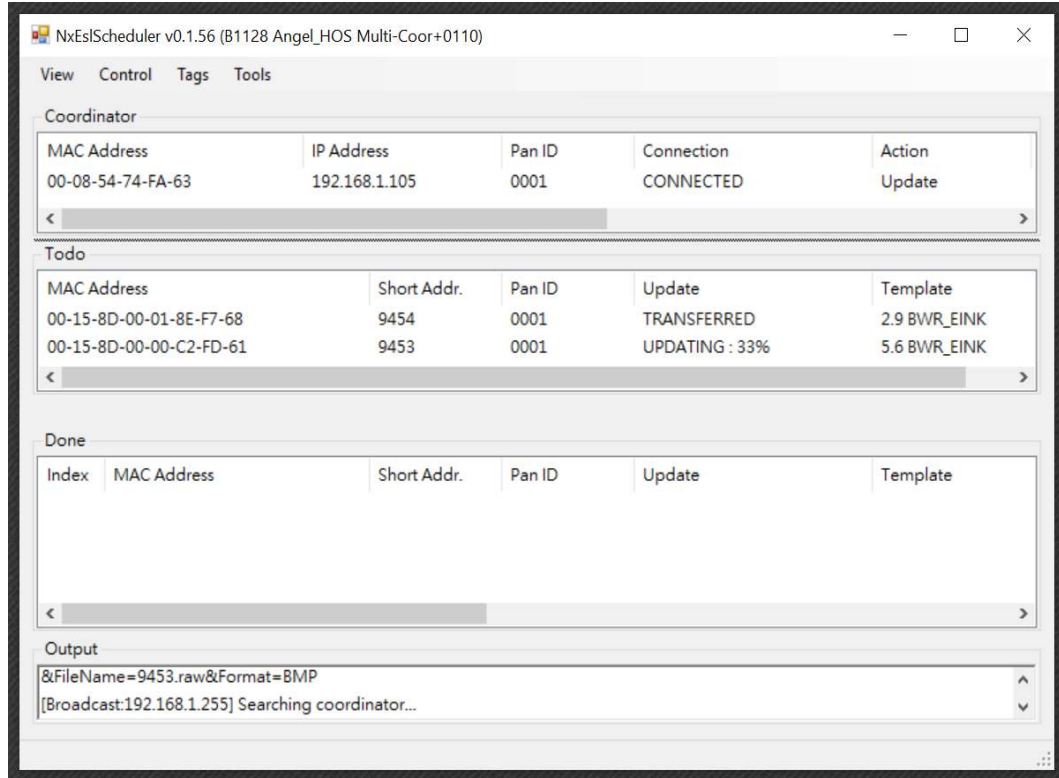

Fig. 13
2. Select the **Tools** tab; then select **Scheduler Coor.** to open the **NxESL Scheduler** dialog box. The scheduler will immediately begin communication with the coordinator and the **ToDo** list will populate with e-Tag update information and current e-Tag status. See Figure 13.